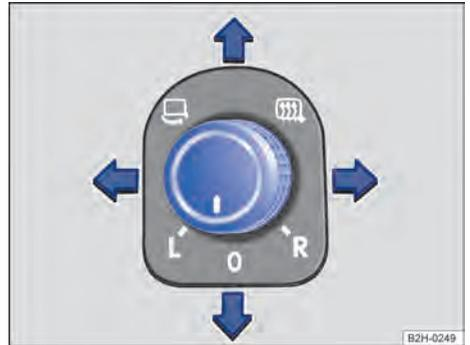

Fig. 93 In the driver door: Rotary knob for adjusting the exterior mirror.
2. Turn the rotary knob in the driver door to the desired symbol → Fig. 93.